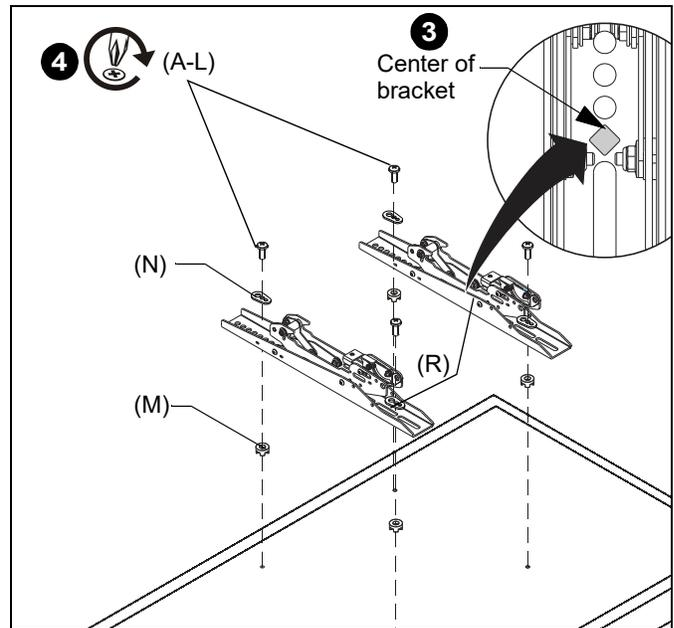

Figure 26
3. Align the center of the interface bracket (R) with center of screen. (See Figure 26)
4. Select correct screws, spacers (if necessary) and universal washers from the hardware bag (A-N) and attach brackets (R) to back of screen. (See Figure 26)